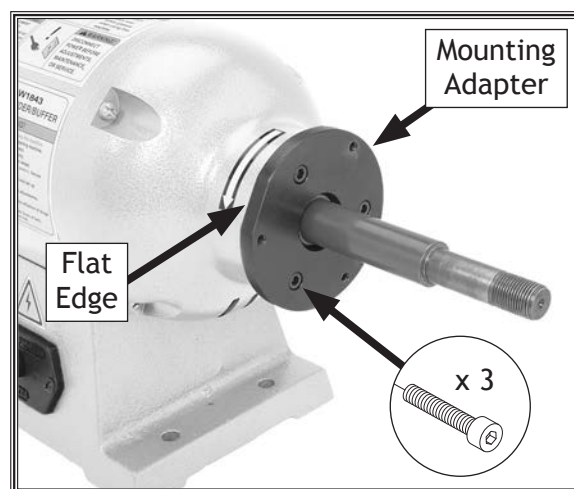

Figure 7. Mounting adapter installed.
1. Slide the mounting adapter onto the right-hand arbor of the motor assembly with the countersunk holes facing out, then rotate it so that the flat edge is at the 10 o'clock position, as shown in **Figure 7**.
2. Secure the adapter to the motor assembly with (3) $\frac{1}{4}$ "-20 x $\frac{1}{2}$ " cap screws (see **Figure 7**).